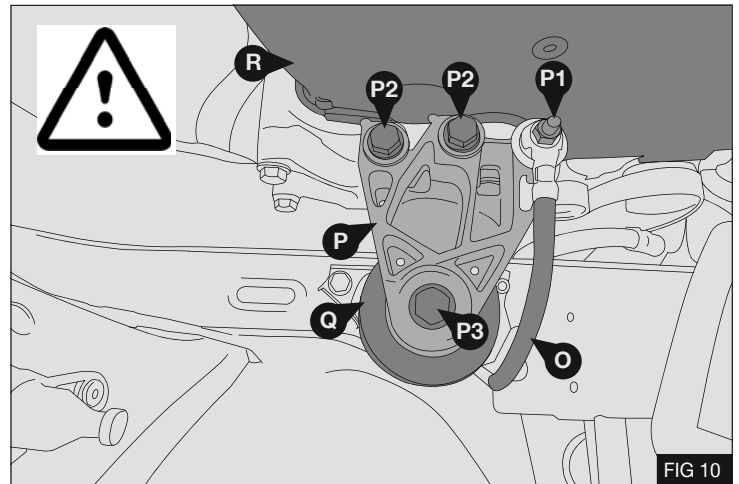

FIG 10
13. Disconnect and remove the grounding wire (O). Remove the fasteners (P1), (P2), (P3) securing the engine mount (P) and remove. - Fig 10
14. Remove the engine mount damper (Q) from the chassis; retain fasteners (Q1), (Q2). - Fig 10